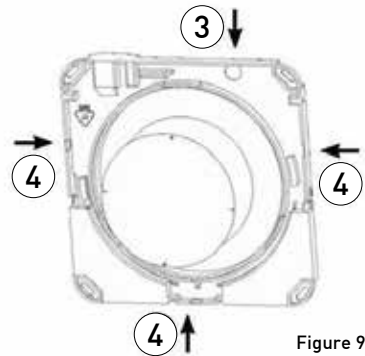

Figure 9
2. Fracture the shutter provided for the transfer of connections (3), in the case of non-concealed external connections, fracture the zones provided for (4) both on the motor support and on the cover (Figure 9).